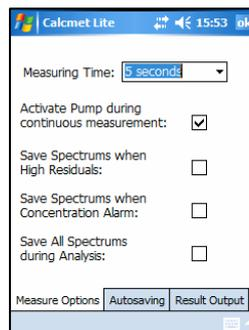

Figure 14. Activate pump during continuous measurement.
- After a successful zero calibration, sample measurements can be performed. The sample pump is switched on when continuous measurement is started if pump mode is activated in File → Settings → Measure Options → Activated Pump during continuous measurement (Figure 14).